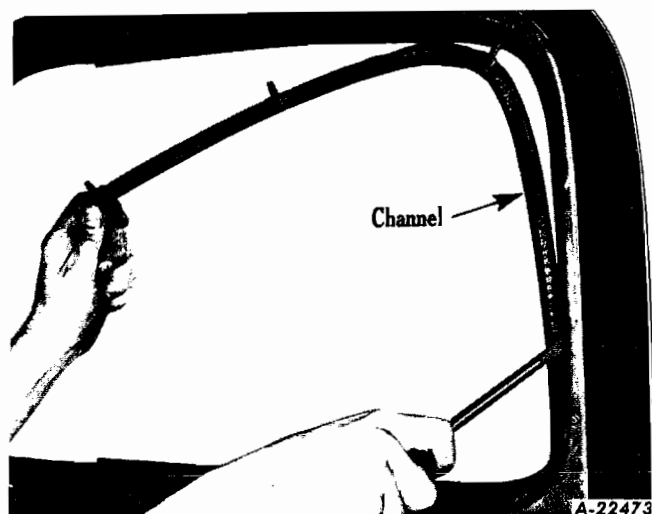

Fig. 14
19. Remove door-glass rear channel and clips (Fig. 14).